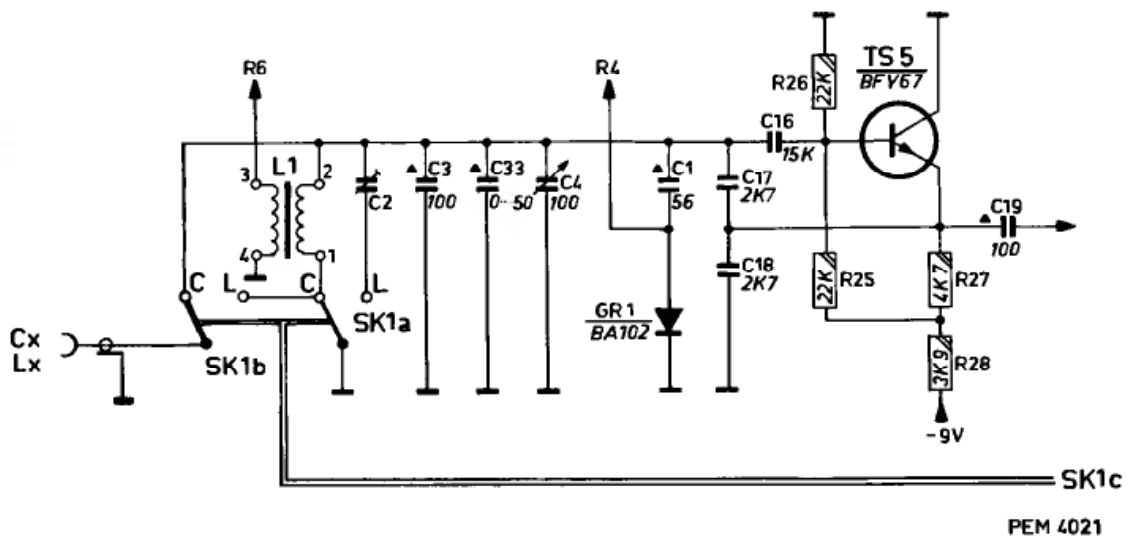

Fig. 5. Variable oscillator
A. VARIABLE OSCILLATOR (Fig. 5)
Dependent on the switch position shown in Fig. 5, an externally connected capacitance Cx detunes the resonant circuit towards the lower frequencies.